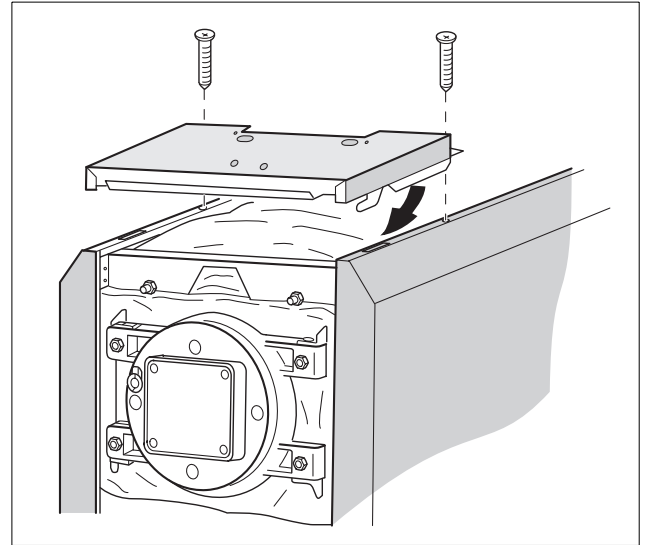

Fig. 13 Engaging and securing front top cover
- Place front top cover on top of side jacket panels and slide forward, until tabs engage into the slots on left and right side (Fig. 13).
- Secure front top cover with two screws to the side jacket panels (Fig. 13).